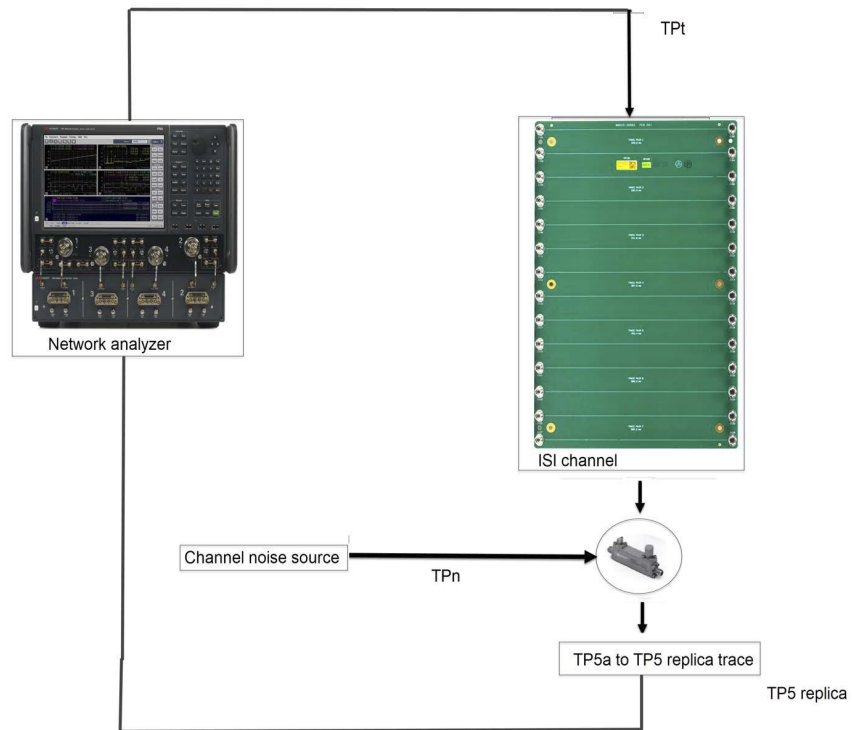

Figure 25 COM procedure: Schematic test setup for channel characterization (Test Channel S-Parameters)
- 1 Measure the scattering parameters, $S^{(tc)}$ on the Test channel (TPt to TP5 replica) (schematic test setup shown in Figure 25).
- Use optimized Tx de-emphasis [opti Tx Eq taps] shown in Figure 25).